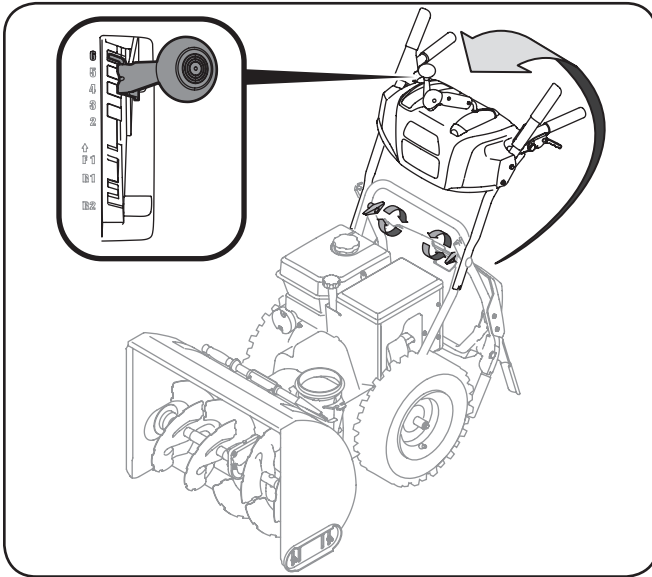

Figure 3-1
1. Place the shift lever in the Forward-6 position as shown in Figure 3-1 inset.